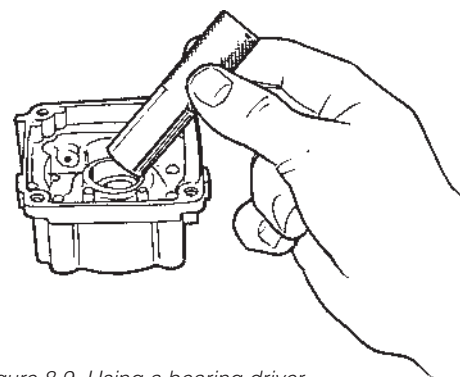

Figure 8.9 Using a bearing driver
**STEP 2.** Remove the bearings from each of the two crankcase halves using the appropriate bearing driver and a heavy hammer (Figure 8.9).